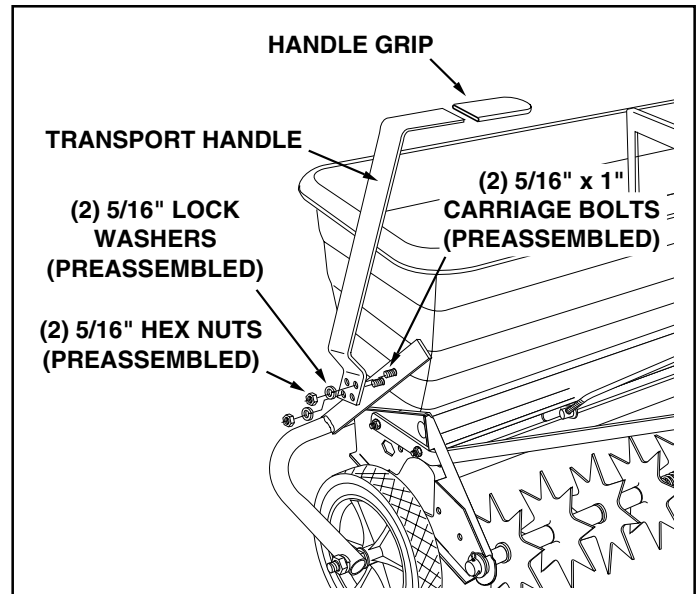

FIGURE 8
18. Remove the two 5/16" lock washers and 5/16" hex nuts from the carriage bolts which are pre-assembled to the lift assembly arm. Attach the transport handle to the arm using the lock washers and hex nuts which you removed. See figure 8.
19. Assemble the handle grip to the transport handle. See figure 8.